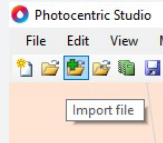

Figure 6
- Click 'File' and 'Import File' to open your file in Photocentric Studio (Figure 6).